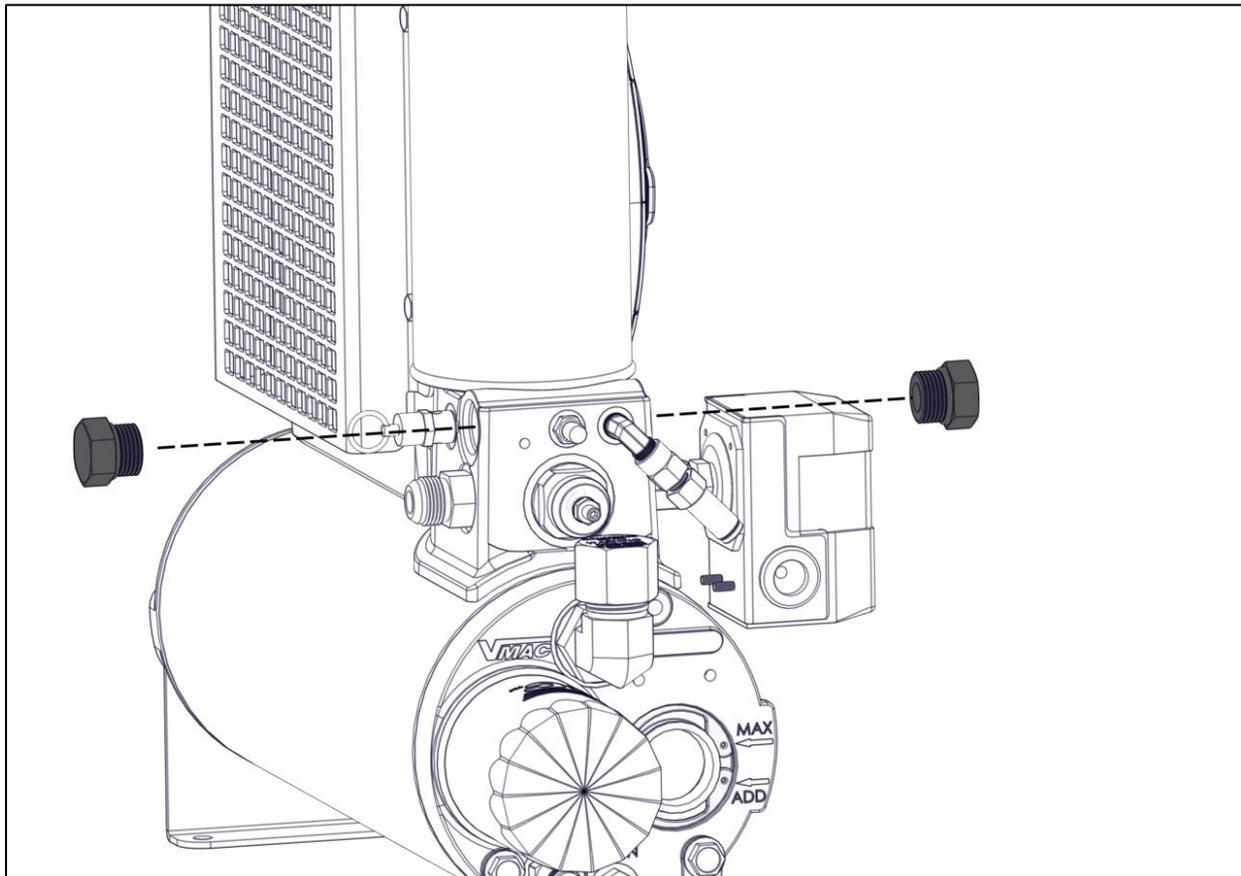

Figure 1 – Remove caps
- Remove the caps from WHASP Tank (Figure 1).